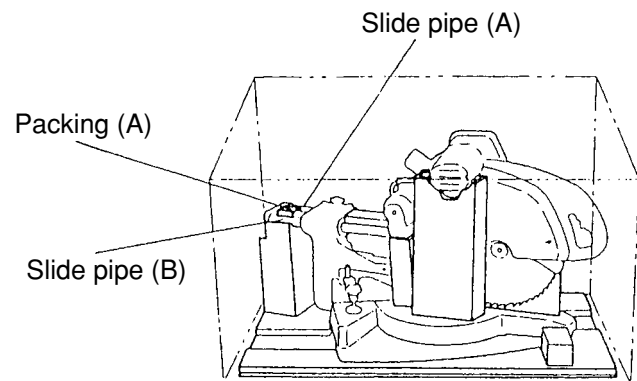

Fig. 56
Put slide pipe (A) and slide pipe (B) in the grooves of packing (D). Insert packing (A) between the slide pipe (A) and slide pipe (B) at the rear. (See Fig. 56.)